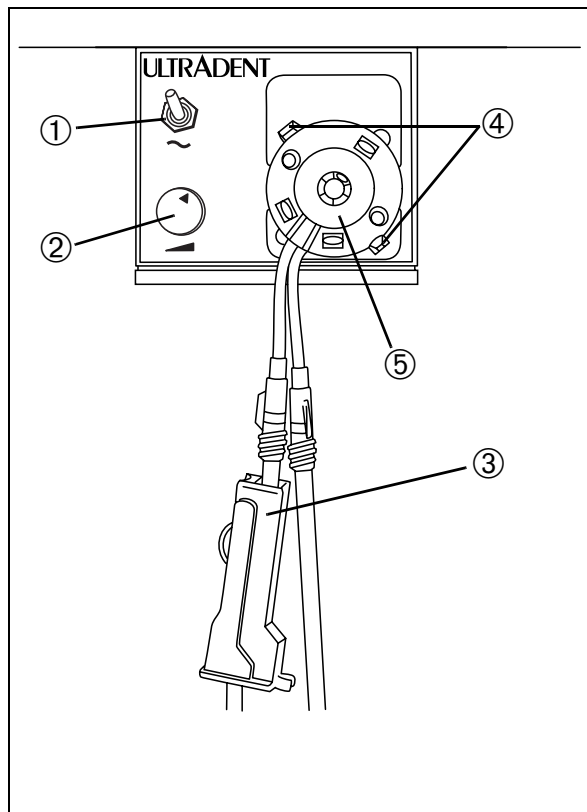

Fig. 74
- Push the pump cassette ⑤ of the infusion set onto the motor shaft until it snaps into place on the clips ④ (Fig. 74).
Switch on the toggle switch ① (Fig. 74) on the steripump (moving the switch upwards). This has the result that the normal internal spray supply to the micro motor is interrupted. The steripump starts automatically as soon as the micro motor is operated using the foot control during spray mode (the steripump is switched off during dry mode).
- The delivery speed of the steripump can be regulated using the control knob ②.
- The flow can be adjusted using the regulating wheel on the infusion set ③ (Fig. 74).
After using the steripump, switch the dental unit back to normal operation using the toggle switch ① (Fig. 74) in order to prevent fluid escaping from the steripump.